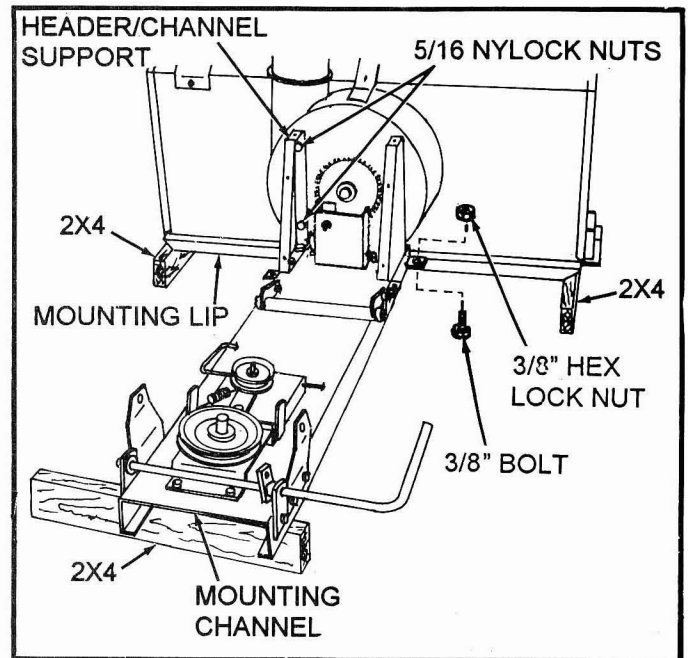

FIG. 12
- Place one 2x4 under each end of snow thrower header. (See Fig 12)